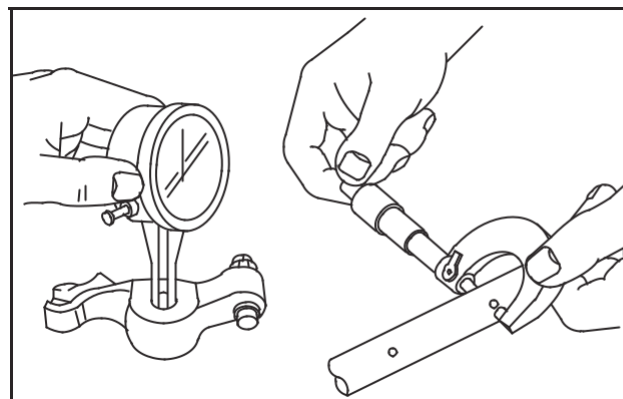

Fig. 26 – Checking Rocker Arm And Shaft
2. Check rocker arms and shaft, Fig. 26.